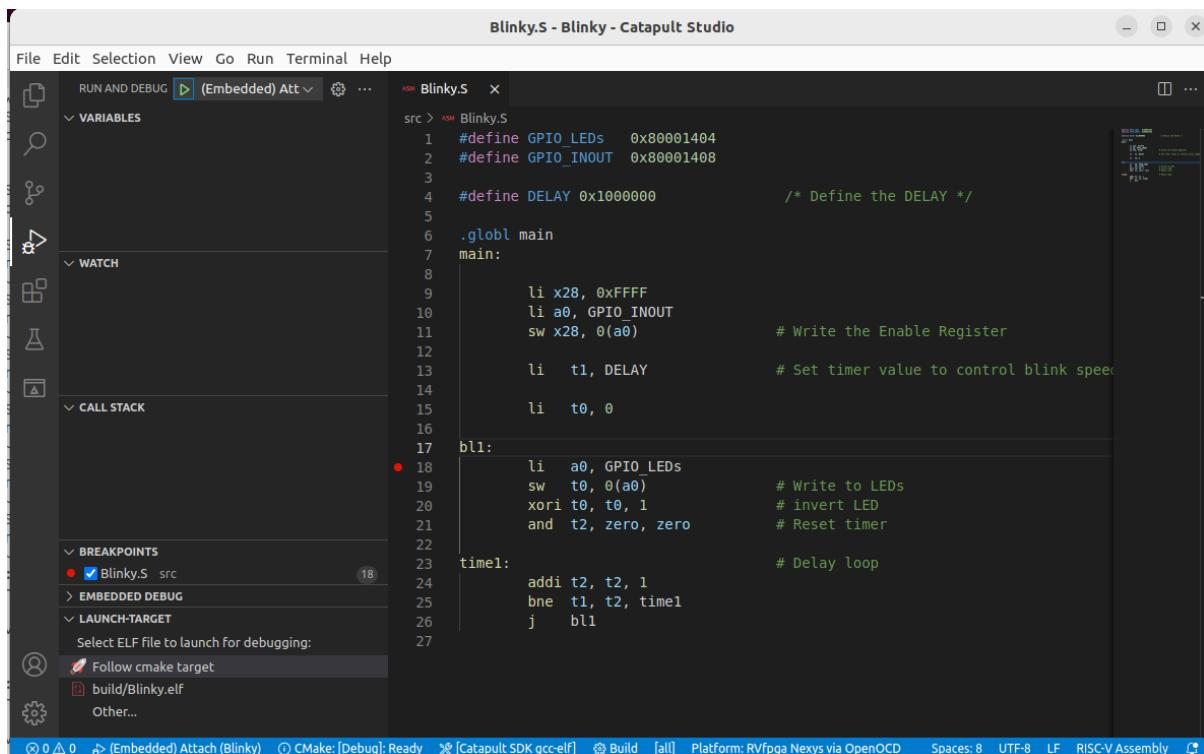

Figure 44. Setting a breakpoint in blinky.S
10. Establish a breakpoint by clicking to the left of line number 18. A red dot will appear and the breakpoint will be added to the BREAKPOINTS tab (see Figure 44).